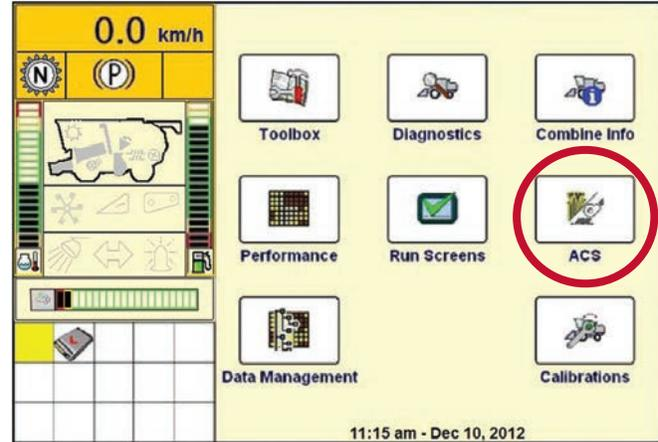

Figure 20.1
- ACS work settings page will be displayed, press “Working” (see figure 20.1)